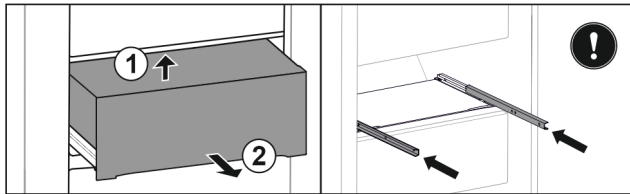

Fig. 36
- ▶ Lift it up at the back from below Fig. 36 (1).
- ▶ Take out to the front Fig. 36 (2).